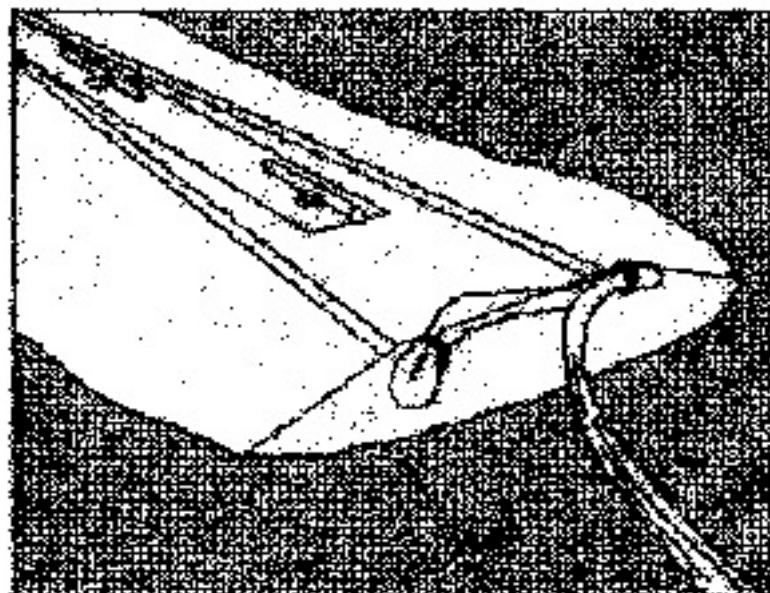

Figure 11
18. CLOSE THE FREEBAG LOCKING FLAP WITH TWO SHORT BITES (1" - 2") OF THE SUSPENSION LINE IN THE ELASTIC SAFETY STOW. (SEE FIG. 11)